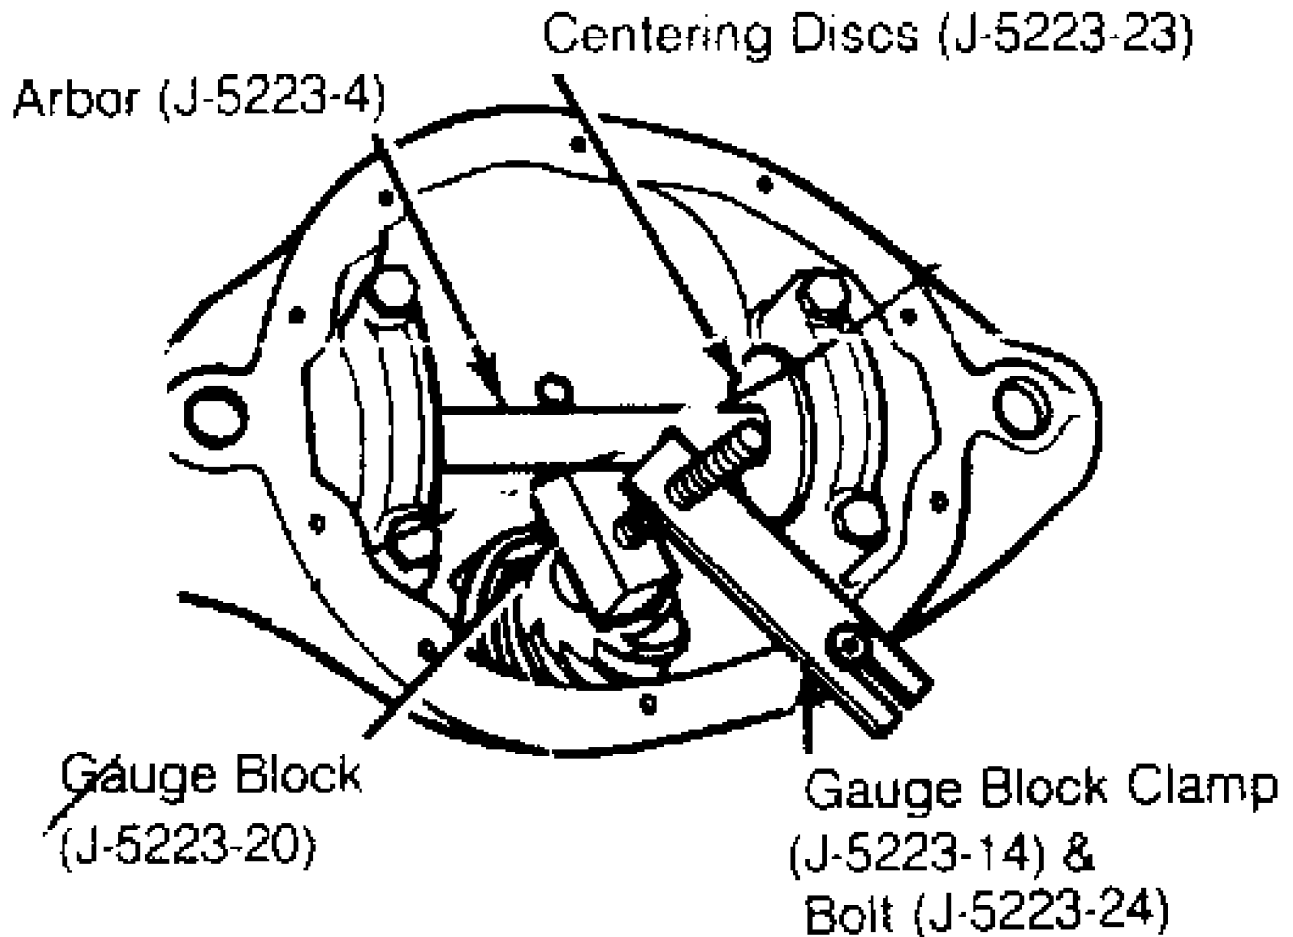

Fig. 4: Measuring Pinion Depth
10) Position Gauge Block (J-5223-20) against end of drive pinion with Clamp (J-5223-24) and Bolt (J-5223-29). See Fig. 4. Extend clamp bolt until it presses against gauge block enough to prevent gauge block from moving.